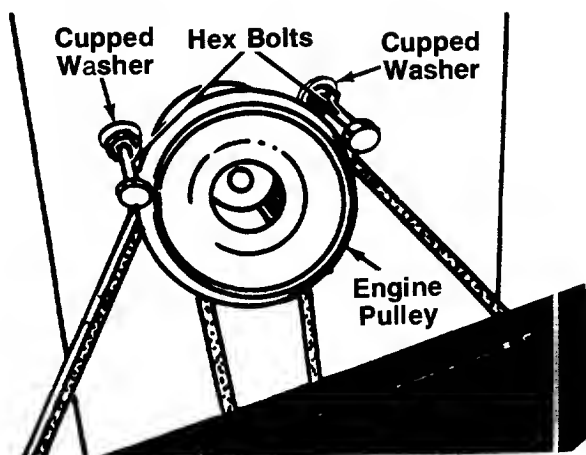

FIGURE 20.
NOTE: Figures 20 through 23 are shown with the unit tipped up for clarity. It is not necessary to tip the unit to remove the belts.
3. Remove the hex bolts (belt keepers) and cupped washers from the engine pulley belt guard. See figure 20.
NOTE: Make certain hex bolts are reassembled as shown in figure 20.